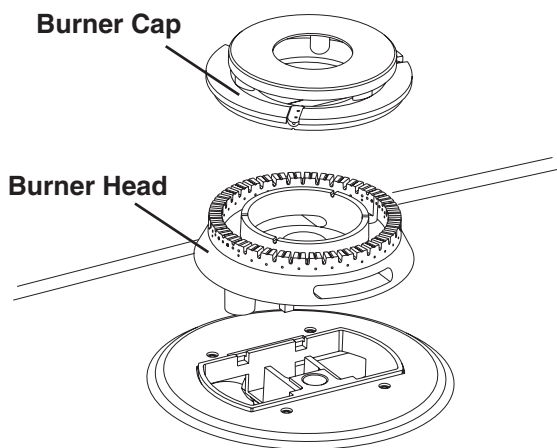

Figure 10
C. **Triple Burner (if equipped):** Remove all tapes from burner cap. Remove the burner cap and head. Remove and discard the packaging material. Replace head and cap on the triple burner. **Be careful not to damage the electrode while placing the head over the orifice.** Make sure electrode fits correctly into slot in burner head (see Figure 10).